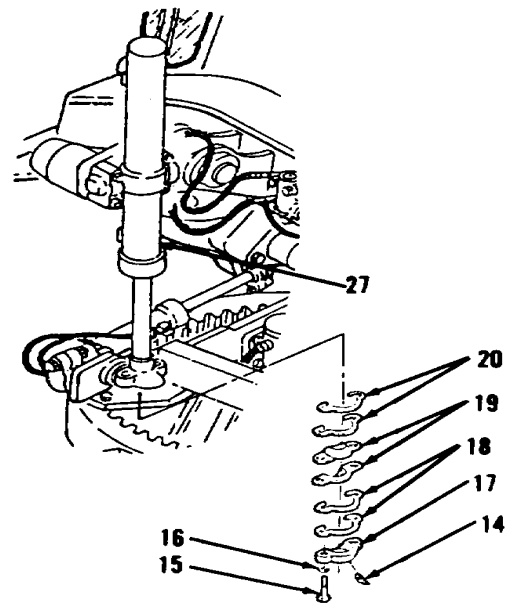

Figure 10-130.
7. Remove fitting (14, Figure 10-130).
8. Remove two bolts (15) and lockwashers (16).
9. Remove cap (17), two shim(s) (18), inserts (19) and shim(s) (20). Tie shim(s) (18 and 20) together and tag for identification.